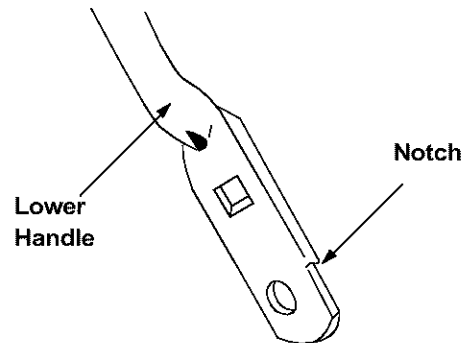

Figure 18
- Turn the lower handle around so the notch on the bottom of the lower handle is facing forward as shown in Figure 18. Reassemble, placing the bottom holes in the handle over the weld pins in the handle mounting bracket.